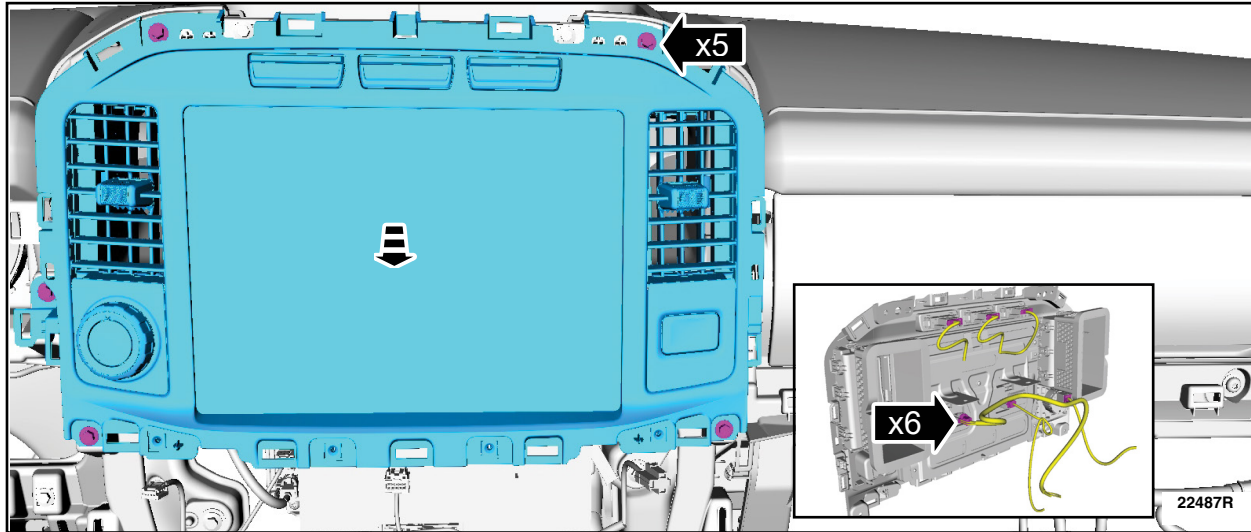

FIGURE 16
17. Remove the bolts, disconnect the electrical connectors and remove the display unit. See Figure 16.